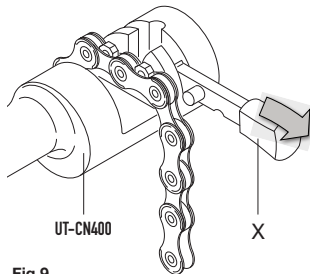

Fig.9
- Fit the link to be closed in the relative seats (**Fig. 9**).